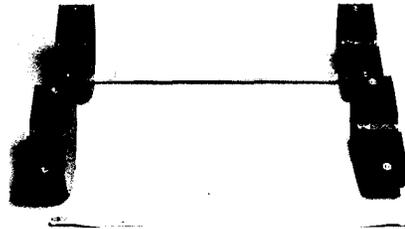

Figure 19 — Application of "C" Cement to End Plate Surfaces
9.01 Apply a thin coat of "C" cement to each inside surface of the end plates as shown in Figure 19.